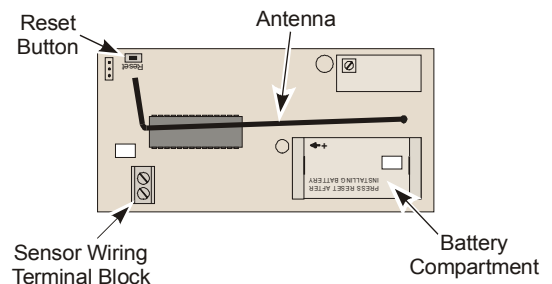

Figure 5: Transmitter Circuit Board
5. Connect the sensor wires to the sensor wiring terminal block shown in Figure 5. (Sensor wiring is not polarity sensitive.)
All transmitters are shipped completely programmed by Johnson Controls/PENN according to the specified application requirements. Insert the battery and press the reset button on the lower right of the transmitter circuit board to start transmissions. See Figure 5 and the *Applying a Wireless System* and *Transmitter Settings* sections.